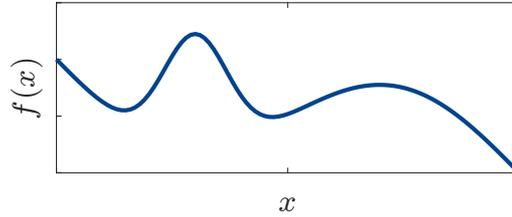

Fig. 2: Imaginary nonlinear sensor characteristics
- f) What is problematic with the compensation via inversion of the nonlinear characteristics shown in Fig. 2? What property is required to allow the inversion of a function. What has to be done to compensate the nonlinear characteristics for the whole function $f(x)$?